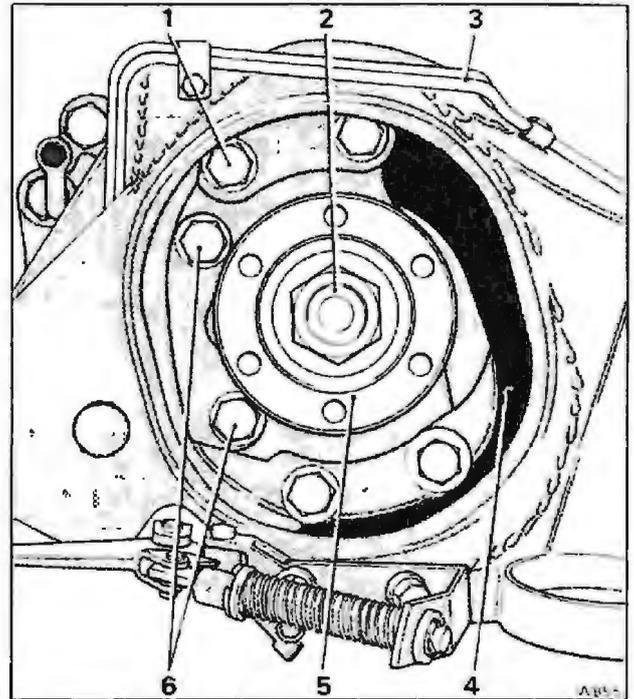

Fig. J5-3 Rear hub and brake caliper mounting
13. Remove the two lower setscrews securing the stub axle flange to the trailing arm (see fig. J5-3).
4. Remove the large nut securing the hub coupling to the drive-shaft (see fig. J5-3).